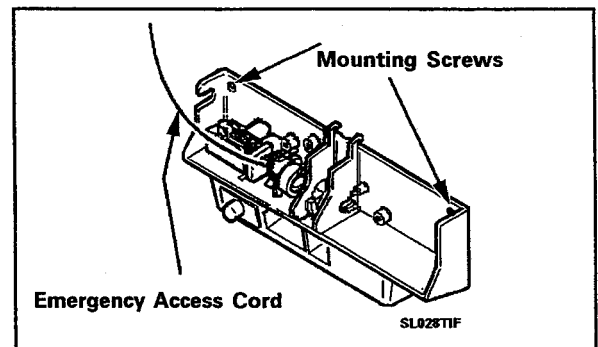

Figure 2-26
5. Remove two 5/16" hex-head screws securing the switch support to the metal shroud support (*Figure 2-26*).